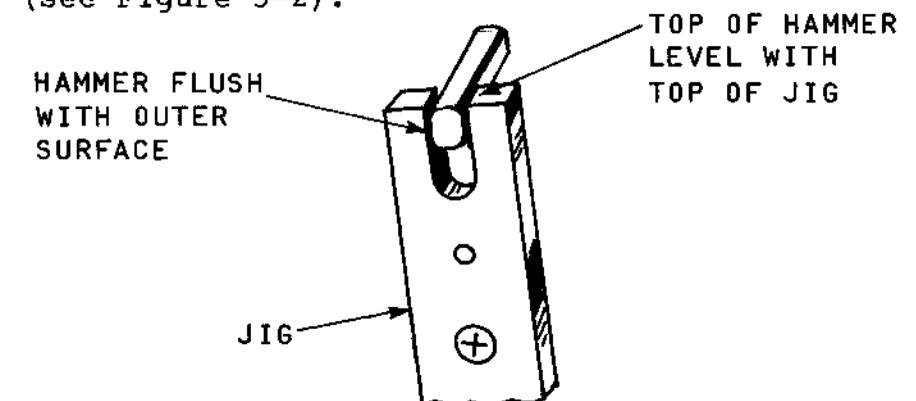

Figure 5-2 Hammer Head to Jig Slot Alignment
- c. Align top and end of the hammer in the jig as illustrated in Figure 5-2, and then tighten screw C (both sides).
An added check can be made by replacing the print thimble with the hammer position jig while power is on. Hammer should align in jig slot. Remove jig before powering off (see Figure 5-2).